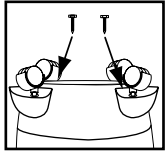

FIGURE 5
6. Make sure caster feet are fully inserted into tank bottom and secure with screws provided. **FIGURE 5**.